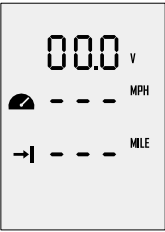

Figure 4-9
Step1: With the unit powered on, press and hold the “**M**” button for 2 seconds to enter the preferences page, as shown in Figure 4-9. Users can select display items based on personal needs and preferences.